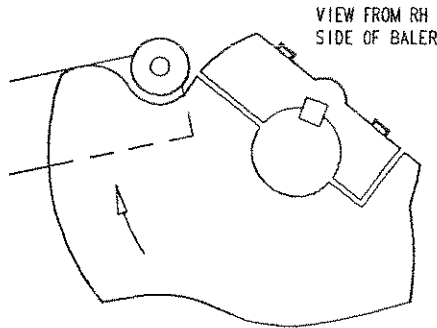
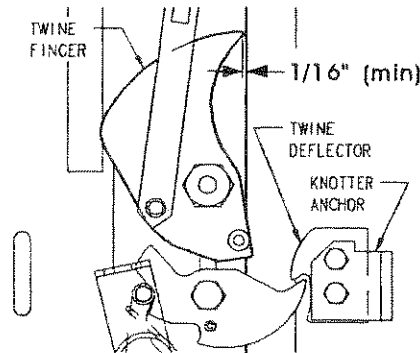
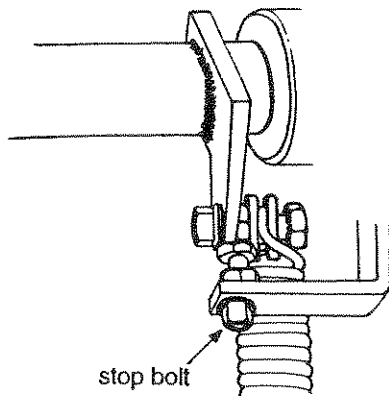

Fig. 25
Fig. 26
Fig. 27
4. Next rotate the knotter assembly until the cam rollers are off the cam surface as shown in Fig. 25. At this point, push the twine fingers by hand toward the needle slots to take up the slack in the assembly. Adjust so the twine finger tips are $1/16"$ minimum, from the left edge of the needle slots as shown in Fig. 26. Make this adjustment with the stop bolts, both LH and RH, located at either end of the twine finger drive shafts. See Fig. 27.
NOTE: The twine finger drive cams should be checked to ensure that both cam rollers, (followers), initiate contact with the cam surface at the same time. If required, adjustment is made by appropriate loosening of one and tightening of the other cam clamping bolt located on each cam. See Fig. 25.
Note top view of deflector in Fig. 26. Make sure the clearance around the tip between the knot sensor finger and the deflector is uniform and from $1/32"$ to $3/32"$. If adjustment is necessary, loosen the nuts on the knotter anchor, reposition the deflector and retighten the nuts. Note this adjustment may effect the knotter hold down pin hole position.